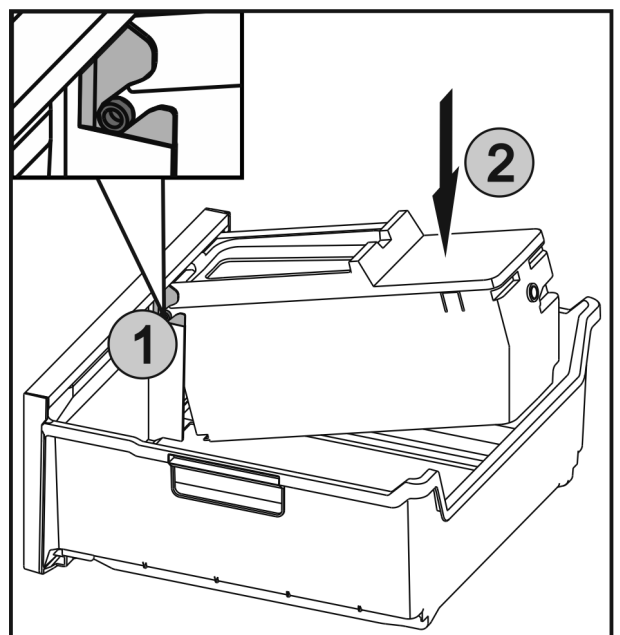

Fig. 62
- ▶ Push the axles *Fig. 62 (1)* on the EasyTwist-Ice into the guides and push the rear side *Fig. 62 (2)* until the lugs engage.